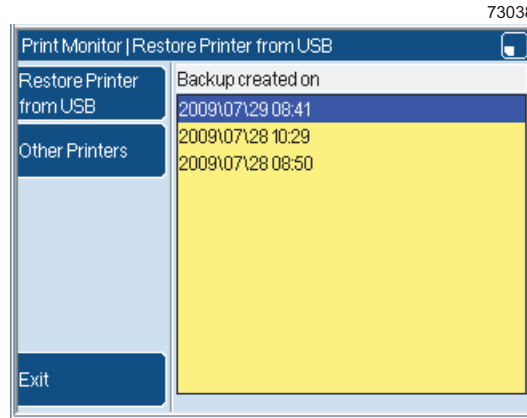

Figure 16. Restore Printer from USB page
- 4 Press the **Restore Printer from USB** key to show a list of current back-ups from printers (see Figure 16 on page 14.).